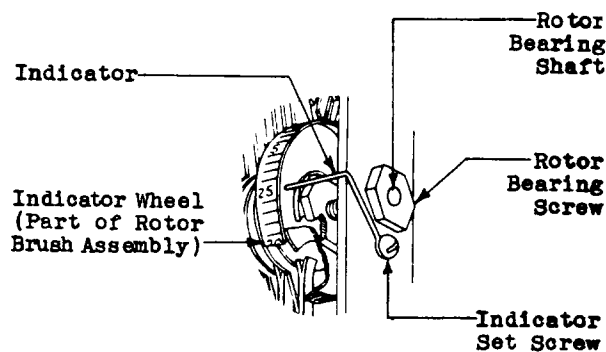

Fig. 16 - Indicator and Rotor Bearing Screws of Switches Equipped With Bearing Screw Type of Rotor Bearing Shaft
3.15 Switches Equipped With the Bearing Screw Type of Rotor Bearing Shaft: To replace a rotor assembly on a switch equipped with the bearing screw type of rotor bearing shaft shown in Fig. 16, remove the retaining pawl mounting screw with the 3-inch cabinet screwdriver and remove the retaining pawl. Remove the rotor bearing screws on both sides of the switch frame with the No. 417A wrench. The screw on the side of the switch nearer the ratchet wheel has a right-hand thread and is loosened by turning in a counterclockwise direction. The screw on the side of the switch further from the